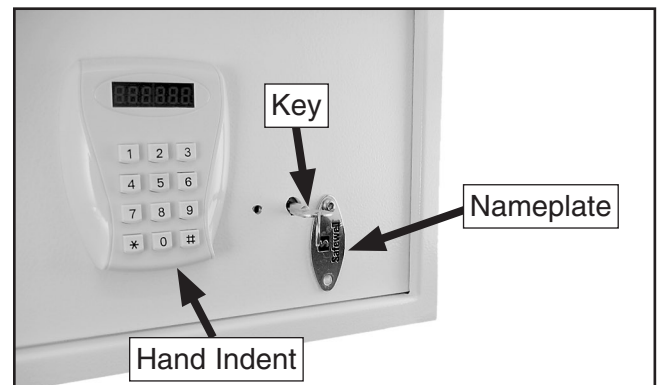

Figure 1. Nameplate moved out of the way to use the key (Model T21543 shown).
2. Use a 4mm hex wrench to remove one of the button head cap screws that secure the brass nameplate, then let the nameplate swing down to expose the keyhole (see **Figure 1**).